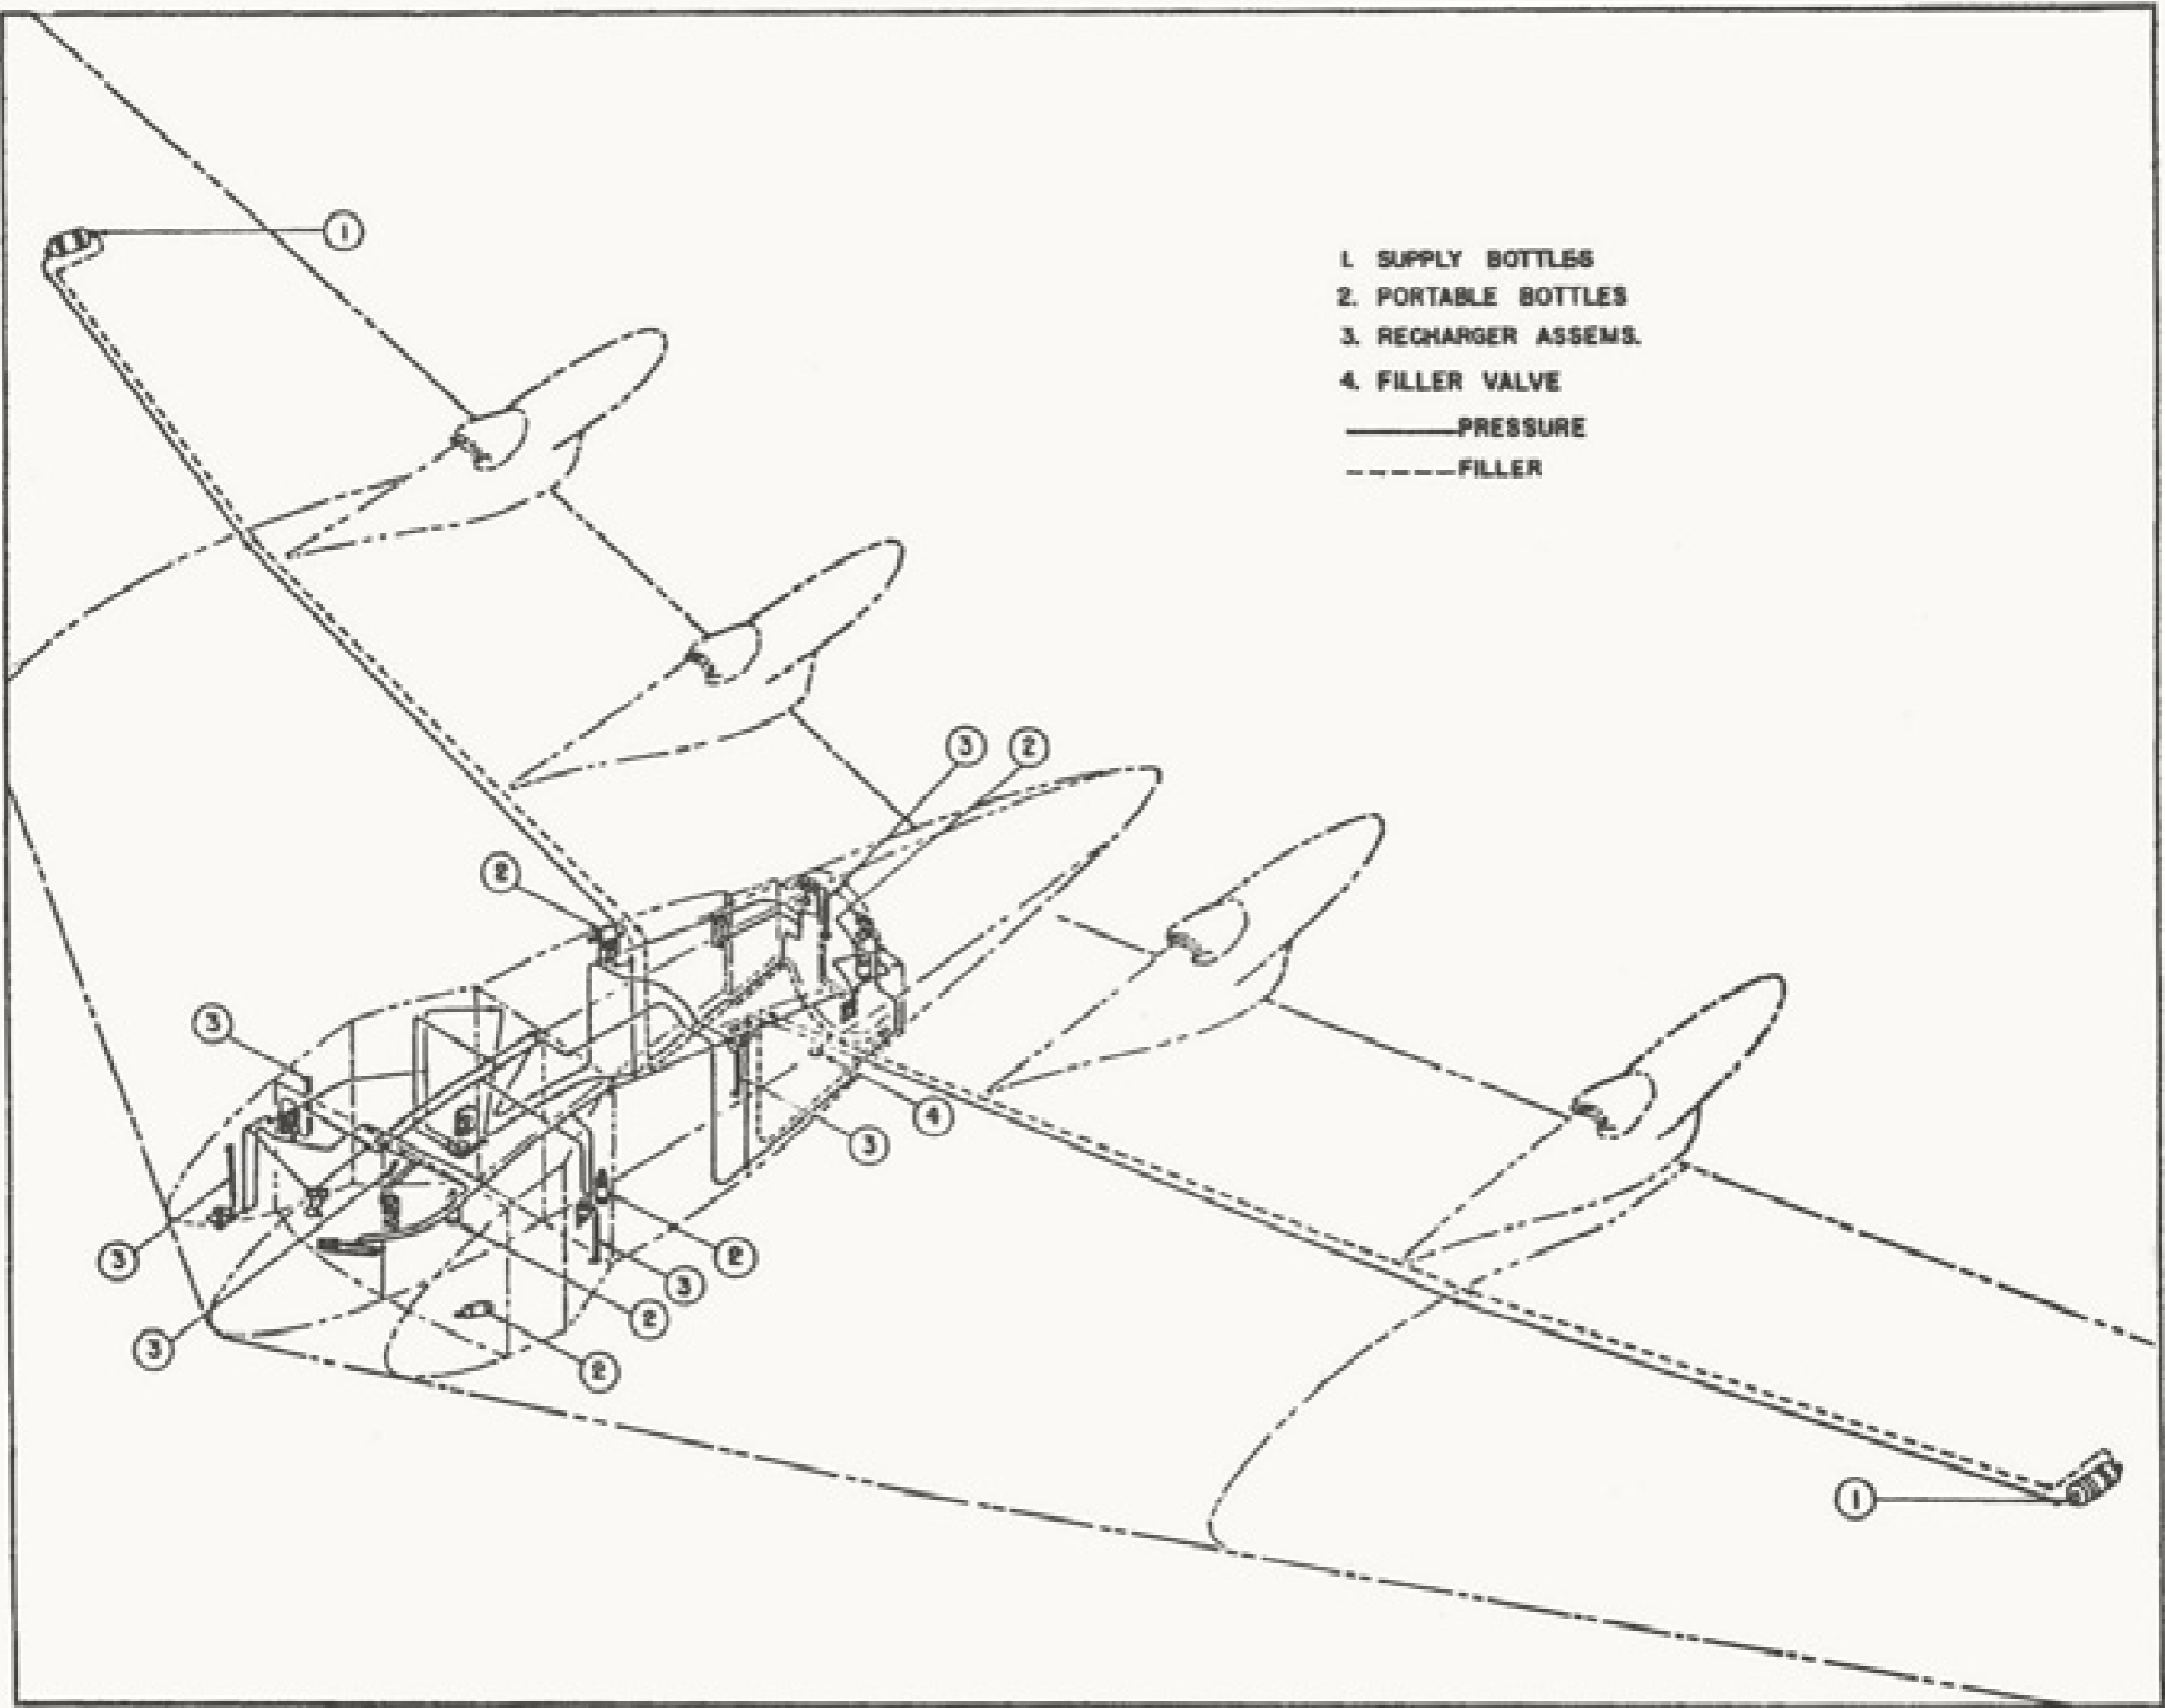

Figure 1. Oxygen System
a. GENERAL.- The airplane is equipped with a low pressure, demand-type, oxygen system, operating at a maximum working pressure of 425 psi. Thirteen oxygen regulators, flow indicators, and pressure gages are provided for crew members. In addition to the normal system, there are four portable oxygen bottles and six recharger hose assemblies in the airplane. (See figure 1.)
(1) Use oxygen above 10,000 feet.
(2) At night use oxygen from the ground up, with auto-mix "ON."
(3) Above 10,000 feet, use portable oxygen bottles when moving about the airplane.